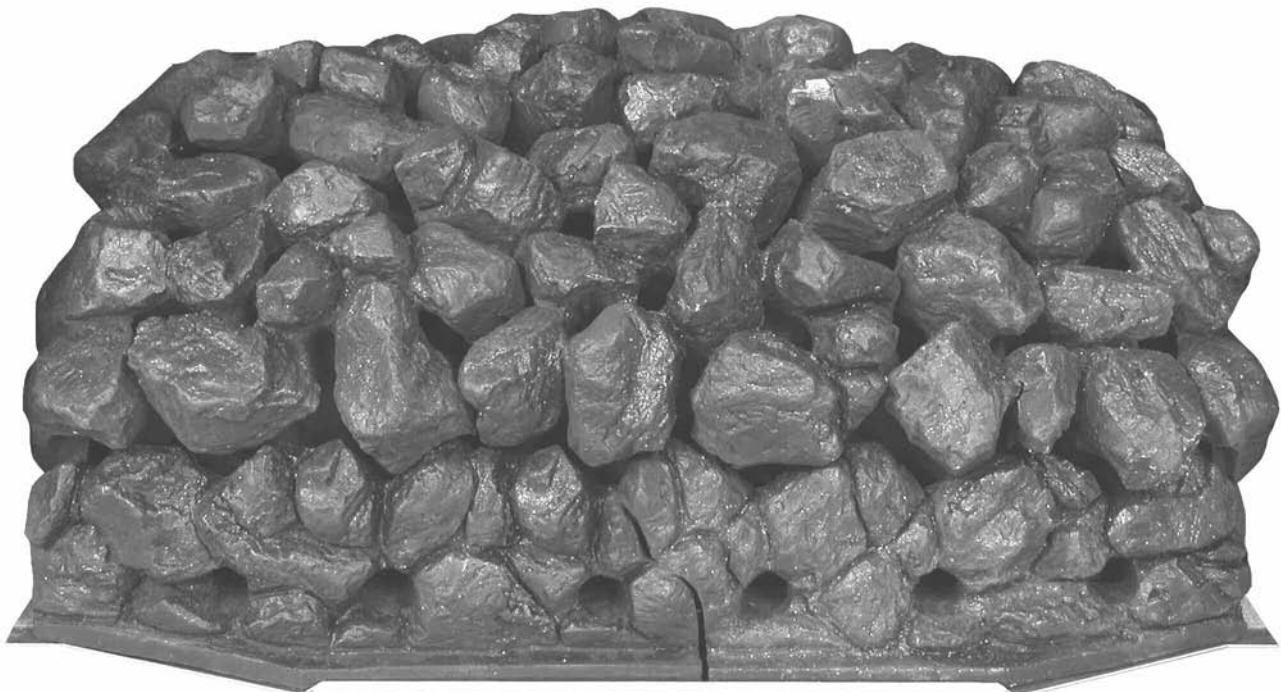

Fig. 20
5. Finally check that all the coal pieces are 'nested' together correctly (Fig. 20).